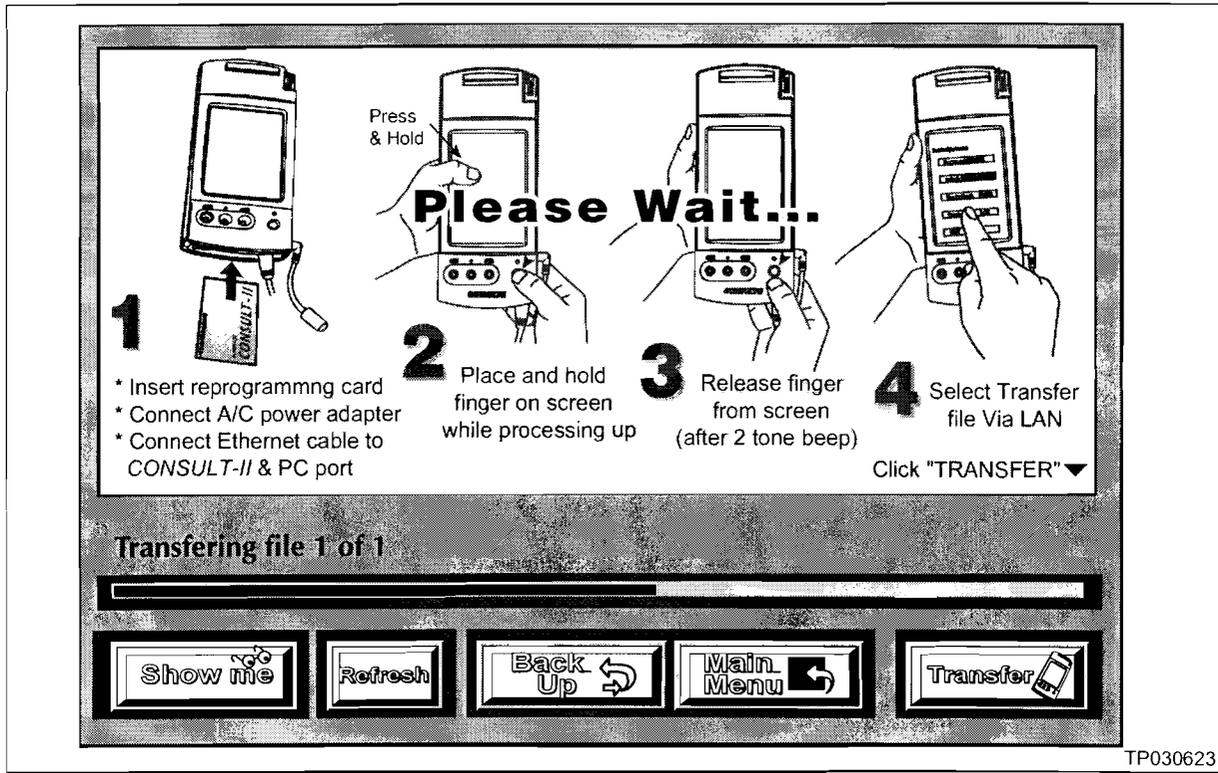

Figure 8
A. On the ASIST screen, click on "Transfer" (see Figure 8).
- Transfer progress is displayed on the ASIST screen (see Figure 8).